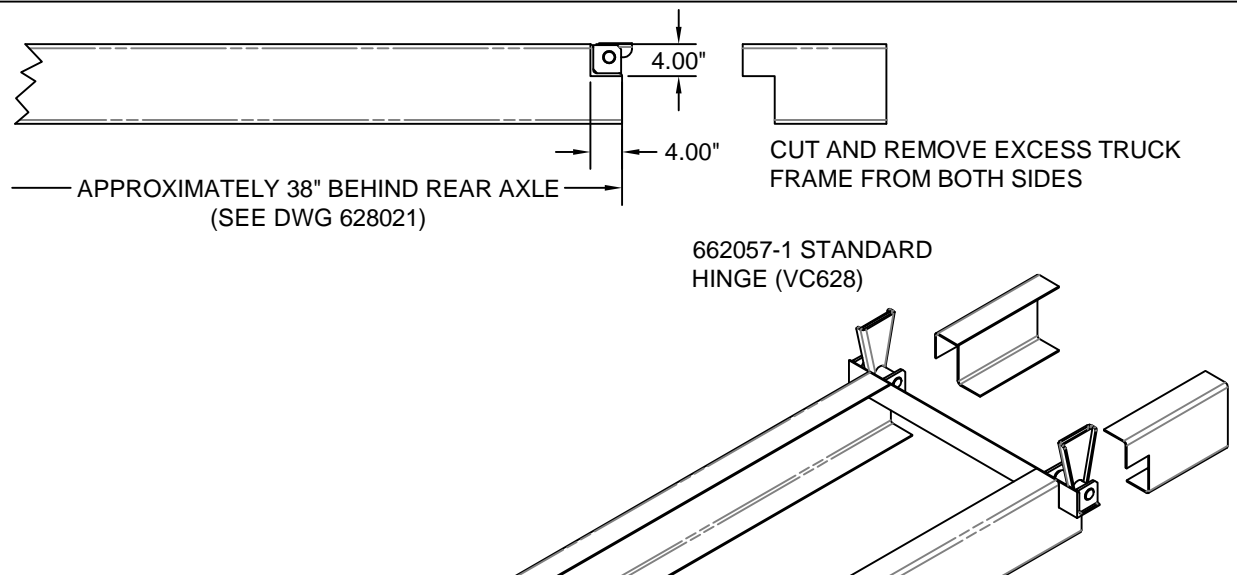

Figure 2 - Frame Modification and Rear Hinge Attachment
- Cut a 90° slot in each side of the frame as shown in Figure 2 below.
With the body aligned with the truck frame, push the hinge rockers outward as far as possible. Ensure that the longitudinal rails are sitting flat on the rockers, weld the body longitudinals to rockers (DWG 520604 Figure 2). See installation DWG 662861 for more information regarding the mounting of the rear hinge rockers to the body.